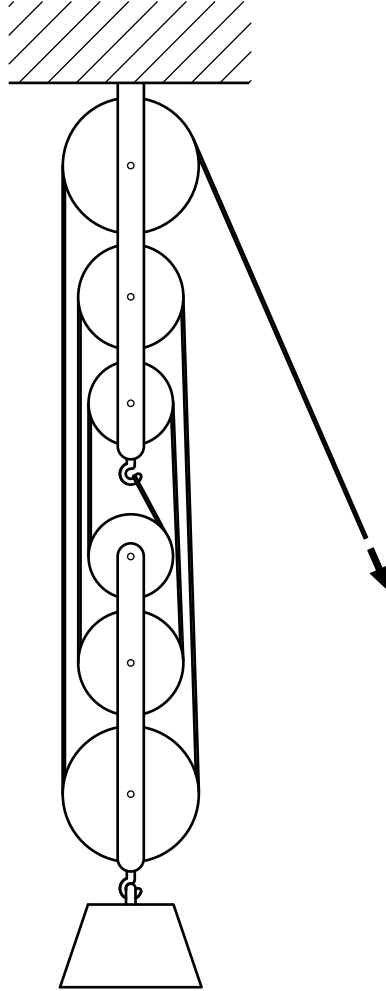

Fig. 1
- 1 (a) Fig. 1 shows a small pulley system that can be used for lifting heavy pieces of machinery.
- (ii) State the mechanical advantage in the system shown in Fig. 1.